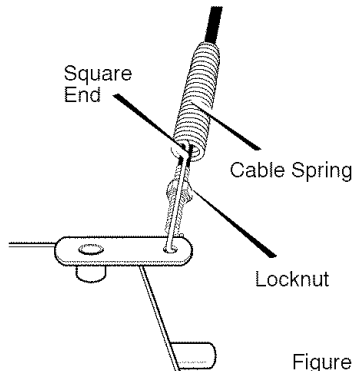

Figure 34
3. Push cable through spring to expose the threaded portion of the cable (see Figure 34).